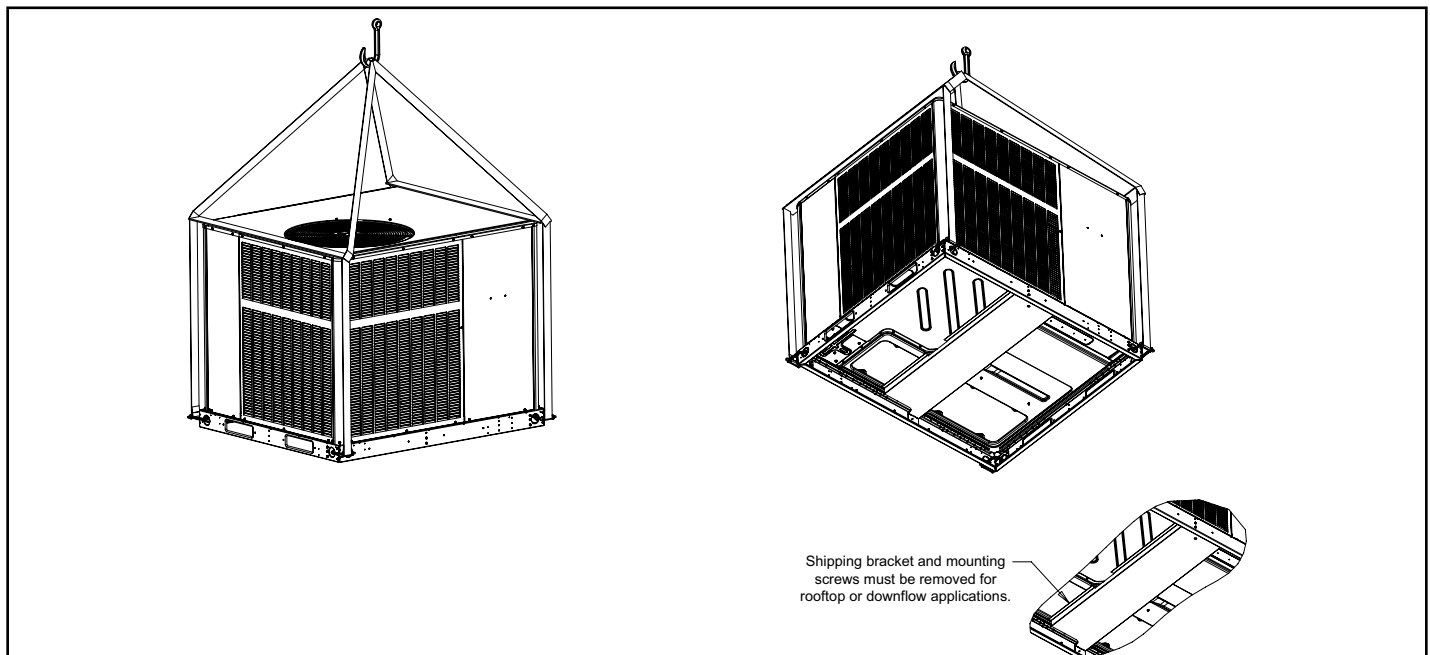

FIGURE 2
- 4 - Prior to setting the unit on the roof curb, remove the shipping bracket located underneath the unit. Remove the two screws in the base rail (located on the front and rear of the unit). The four screws and the bracket can be discarded. See FIGURE 2.
Rig unit for lifting by attaching four cables to holes in unit base rail. See FIGURE 2.